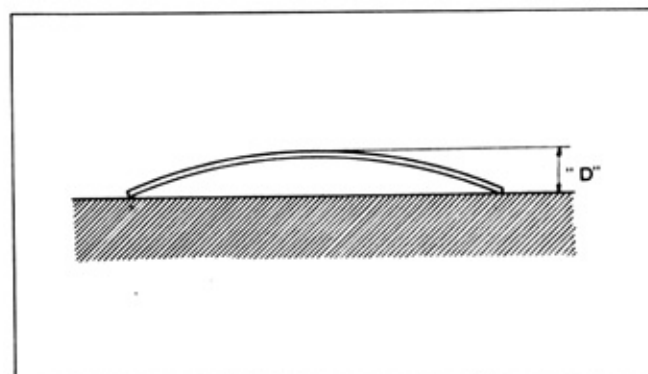

Fig. 8-29 Shoe Spring Tension
- Check the shoe spring height ("D" in Fig. 8-29). If less than 0.12", replace the spring.